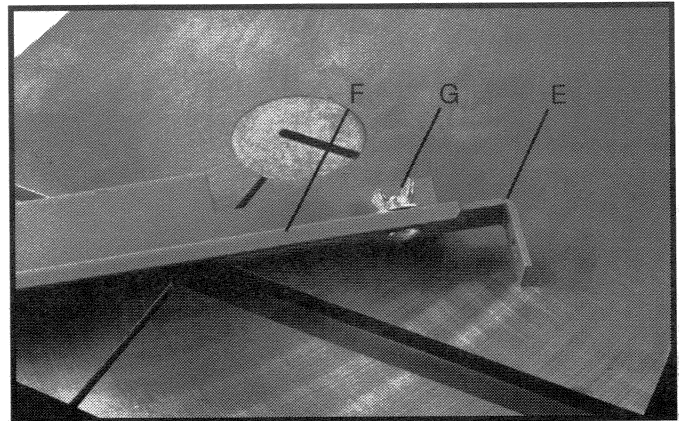

Fig. 15
2. Use the 5/8" carriage bolt, flat washer, and wing nut (G) Fig. 15 to reattach the longer end of angle bracket (E) Fig. 15 to the blade guard.